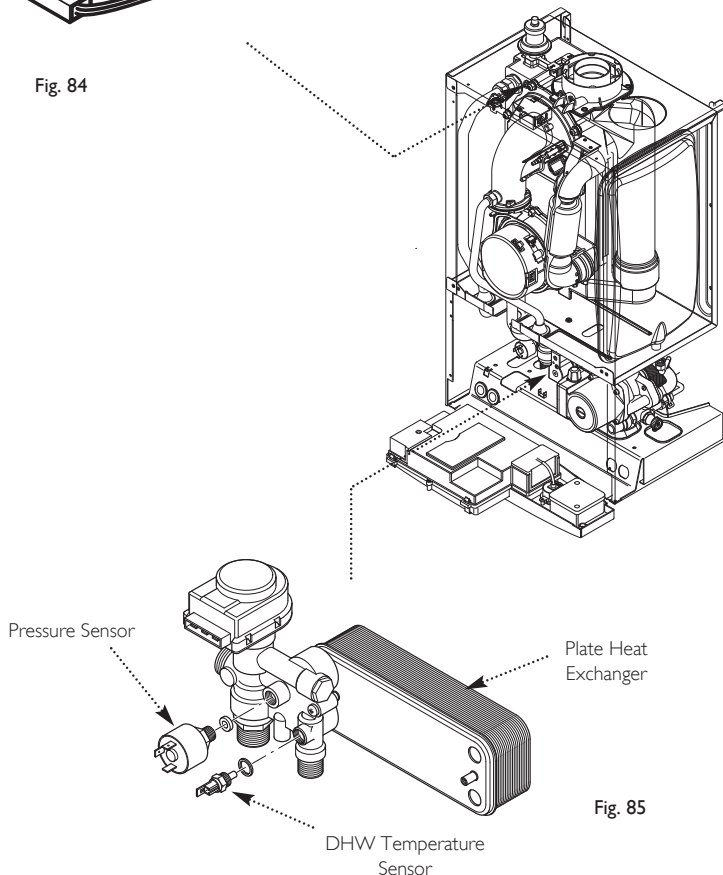

Fig. 85
14.9 Water Pressure Sensor (Fig. 85)
14.10 DHW Temperature Sensor (NTC) (Fig. 85)